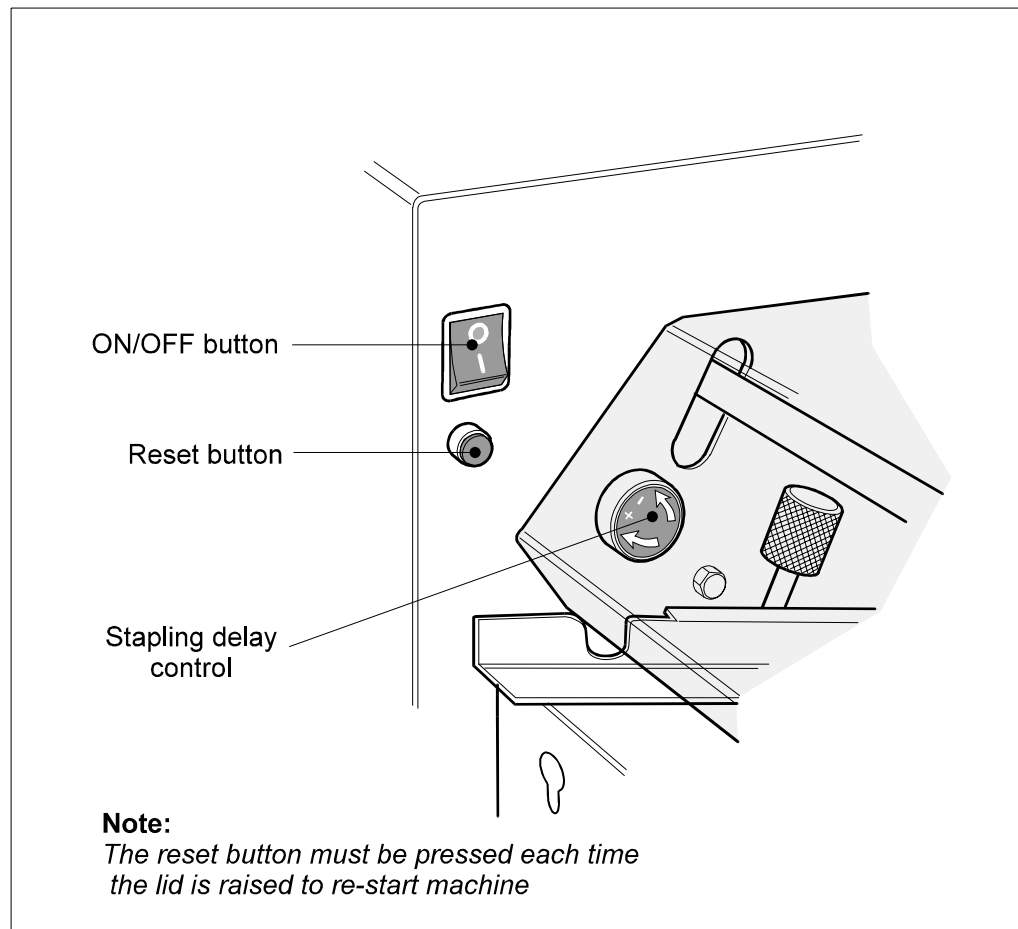

Figure 8 - Operating controls
The above is displayed on the legend plate around the switch (shown in figure 8.).
3. The stapling / folding operation is started when sensors detect the paper in the machine. The time between the paper entering the machine and the stapling action can be varied. This is achieved by turning the Stapling Delay Control shown in figure 8 clockwise for more time and anti-clockwise for less. When first using the machine, give the Stapling Delay Control a quarter turn clockwise. This will give time for the operator to settle the paper between the guides before the machine cycles.